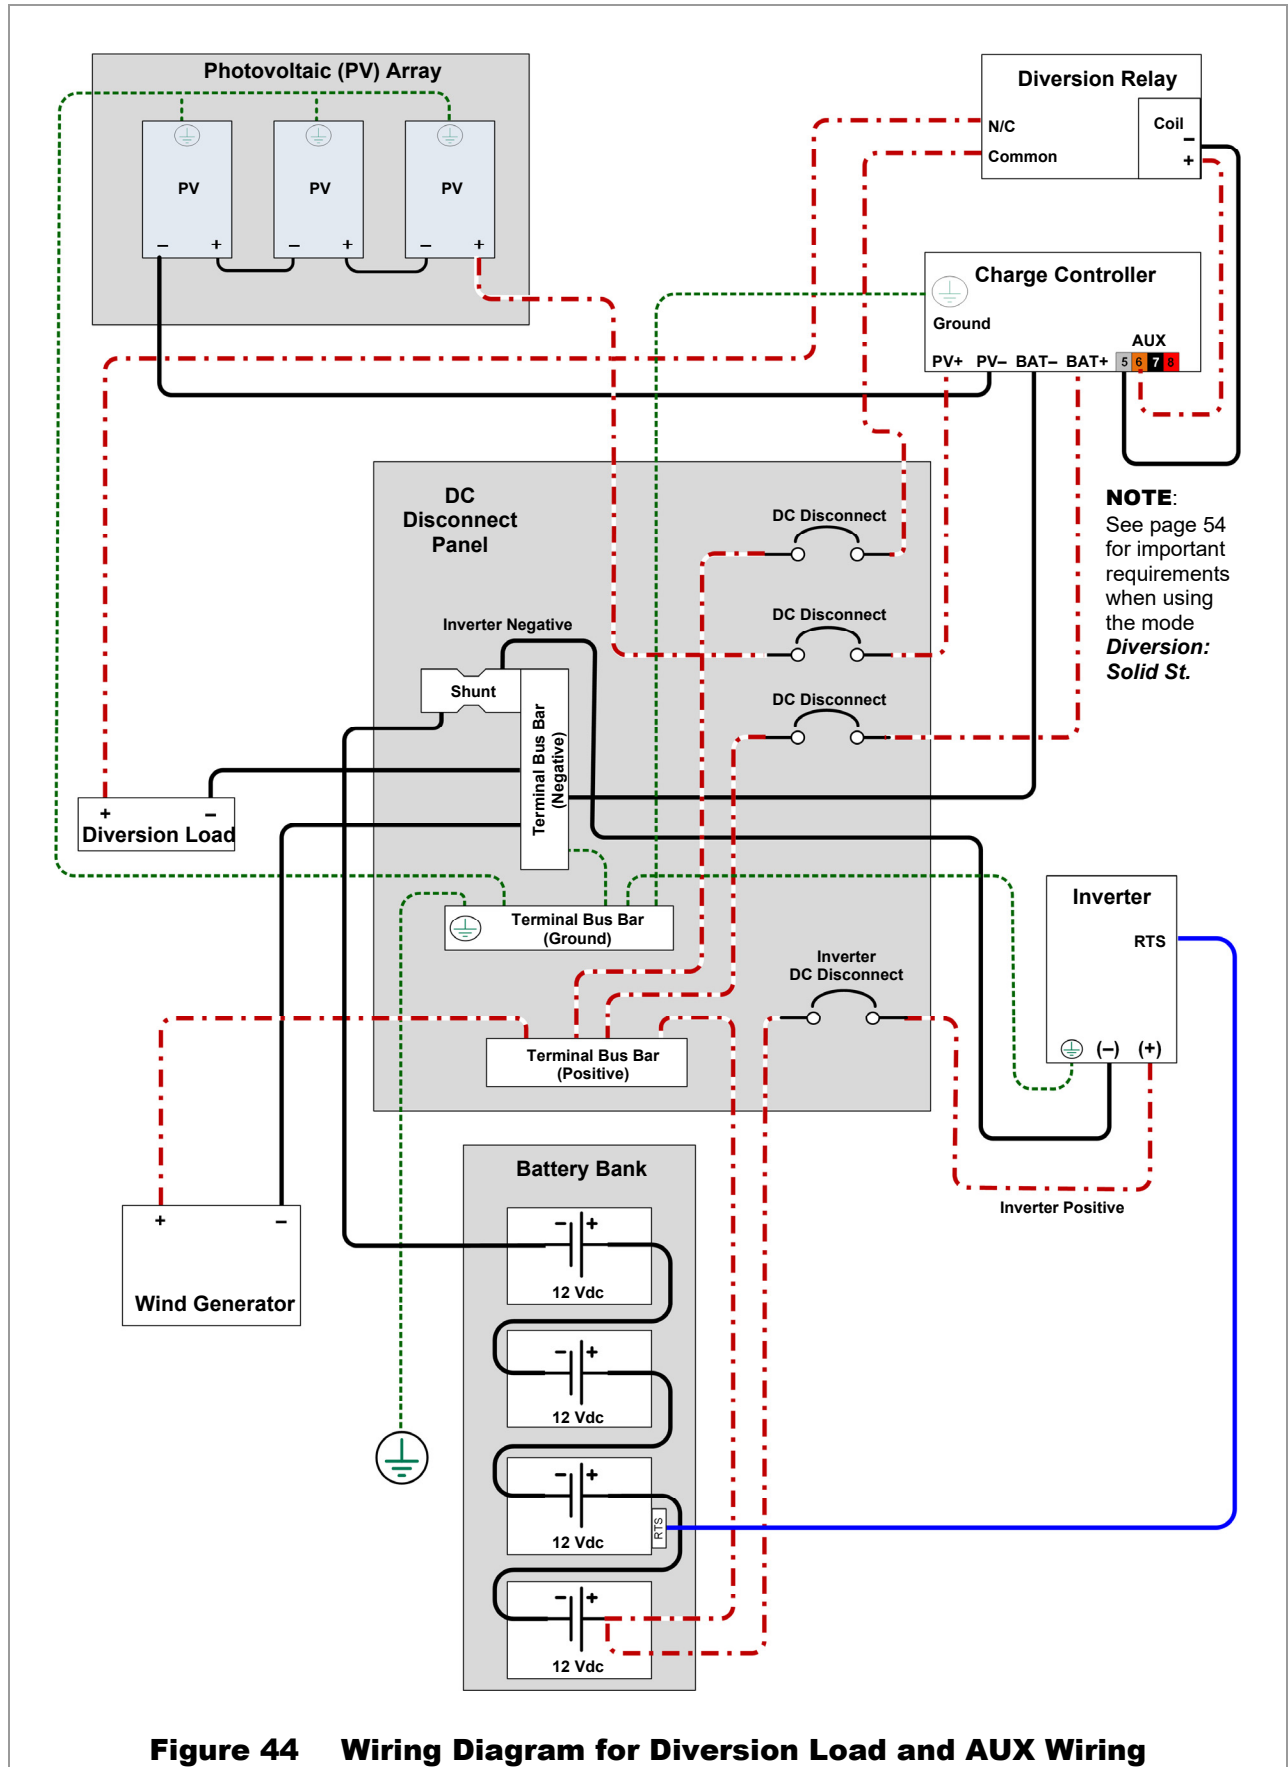

Figure 44 Wiring Diagram for Diversion Load and AUX Wiring
- o See Figure 44, page 55, for an auxiliary setup wiring diagram example.
| <p>Diversion: Relay</p> | <div style="border: 1px solid black; padding: 5px; margin-bottom: 10px;"> <p style="text-align: center;">Auxiliary Output</p> <p>Status Manual Off Port 6</p> <p>Aux Mode Diversion: Relay Active Low</p> <p>Relative Voltage 0.0 Hysteresis 0.2 VDC</p> <p>Hold 0.1 Seconds Delay 0 Seconds</p> <p style="text-align: center;">Off Auto On</p> </div> <p>Function: In Diversion mode, the AUX output changes state depending on the charger’s present stage of operation. The voltage must exceed the charger setting (Absorb, Float, or EQ) by the value of the Relative voltage. This must last for the Delay time for the AUX to respond. The AUX returns to its previous state when the voltage drops below the Relative setting by an amount equal to Hysteresis. This must last for the Hold time for the AUX to respond. For a wiring diagram illustrating how to connect this function, see Figure 44 on page 55.</p> <p>Purpose: This mode is intended to divert power from the batteries to prevent overcharging by operating a diversion load at the appropriate time. The AUX output operates a mechanical relay that controls the diversion load. Often used with wind or hydroelectric sources.</p> | <ul style="list-style-type: none"> o Relative voltage o Hold time o Delay time o Hysteresis voltage | <p>Active High: Activates when battery voltage exceeds the set point. Usually controls an auxiliary load to divert power away from the batteries when voltage is too high.</p> <p>Active Low: Activates when battery voltage drops below the set point; deactivates when the voltage exceeds the set point.</p> |
| Diversion: Solid St | <div style="border: 1px solid black; padding: 5px; margin-bottom: 10px;"> <p style="text-align: center;">Auxiliary Output</p> <p>Status Manual Off Port 6</p> <p>Aux Mode Diversion: Solid St</p> <p>Relative Voltage 0.0 Hysteresis 0.2 VDC</p> <p>Hold 0.1 Seconds Delay 0 Seconds</p> <p style="text-align: center;">Off Auto On</p> </div> <p>Function: When the battery voltage increases, the AUX output goes into pulse-width modulation at a rate of 200 Hz. The response is relative to the charger's present stage of operation. The voltage must exceed the charger setting (Absorb, Float, or EQ) by the value of the Relative voltage. This must last for the Delay time for the AUX to respond.</p> <p>The AUX returns to its previous state when the voltage drops below the Relative setting by an amount equal to the Hysteresis voltage. This must last for the Hold time for the AUX to respond.</p> <p>For a wiring diagram illustrating how to connect this function, see Figure 44 on page 55.</p> <p>Purpose: This mode is intended to divert power from the batteries to prevent overcharging by operating a diversion load at the appropriate PWM level. The AUX output operates a solid-state relay for fast and precise control of the diversion load. Often used with wind or hydroelectric sources.</p> | <ul style="list-style-type: none"> o Relative voltage o Hold time o Delay time o Hysteresis voltage | Not Available |